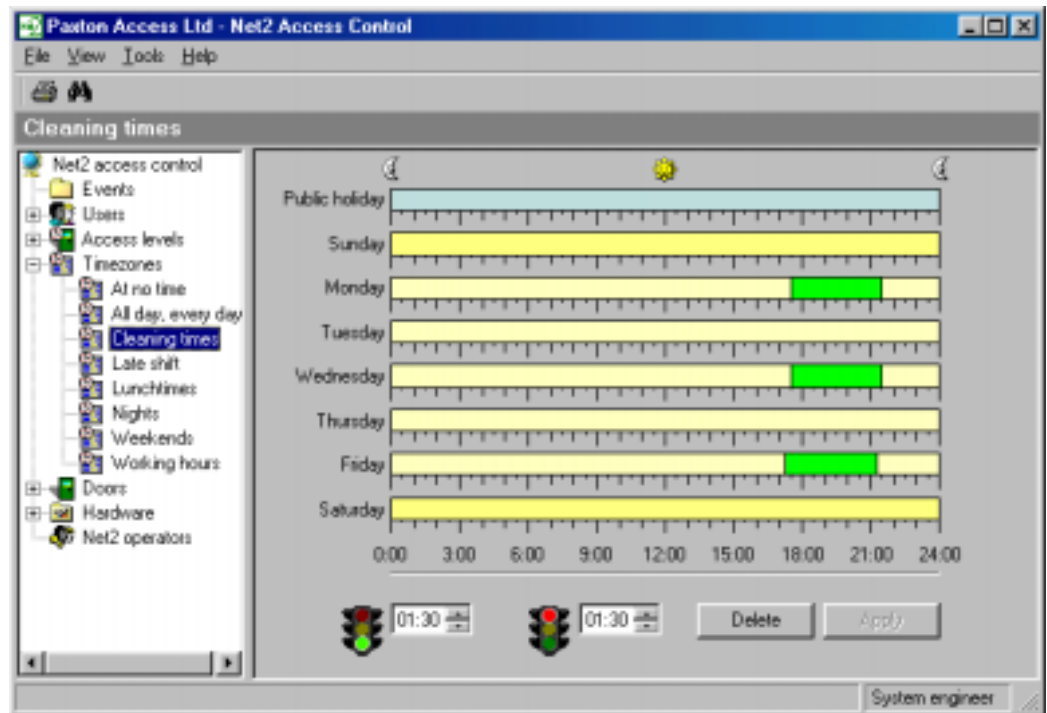

Figure 4.7
1. Select the desired timezone from the pull down menu in the treeview window, see figure 4.7.